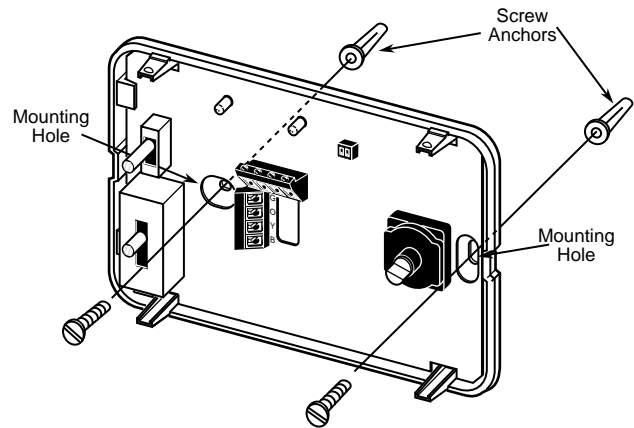

Figure 2. Mounting thermostat base to wall
5. Fasten thermostat base loosely to wall using two mounting screws (see fig. 2). Place a level against bottom of base, adjust until level, and then tighten mounting screws to secure base (leveling is for appearance only and will not affect thermostat operation). If holes in wall are too large and do not allow you to tighten base snugly, use plastic screw anchors to secure base.